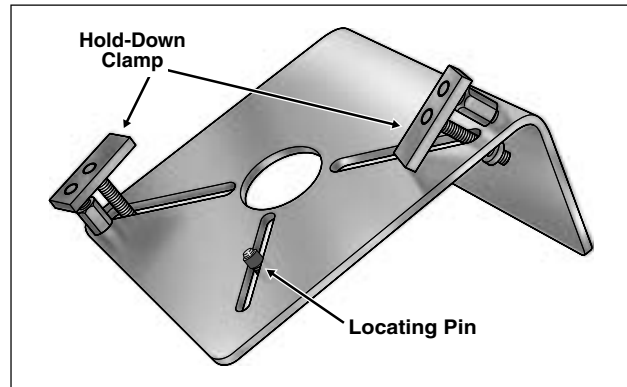

Figure 3-130. Flywheel Fixture (Part No. HD-44358)
- a. Obtain FLYWHEEL SUPPORT FIXTURE (HD-44358). See Figure 3-130. Install brass jaws or shop towels around teeth of vise to prevent damage to tool. Clamp tool in vise with the round hole top-side.